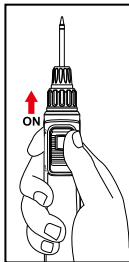

Fig.2
1. Slide **ON/OFF** Switch to ON position (Fig. 2)